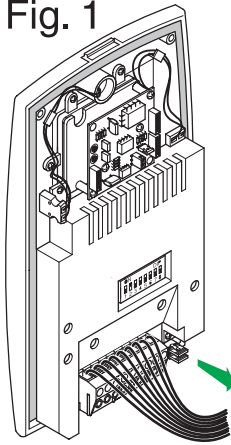

Fig. 2
2. Enter programme mode by inserting one of the jumpers in position JP4 (Fig. 2).